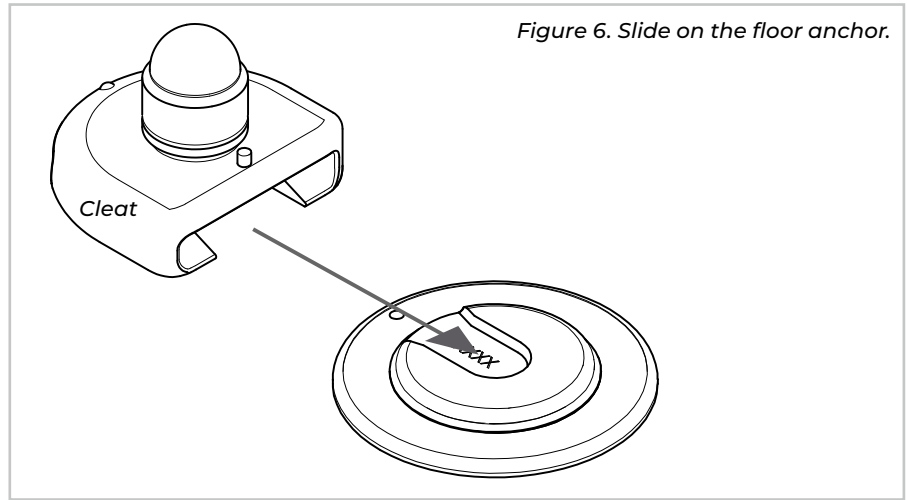

Figure 6. Slide on the floor anchor.
- 1 Attach a tie-down onto the floor anchor by aligning the protrusion within the cleat, to the slot on the floor anchor (Figure 6). Slide the cleat fully home.